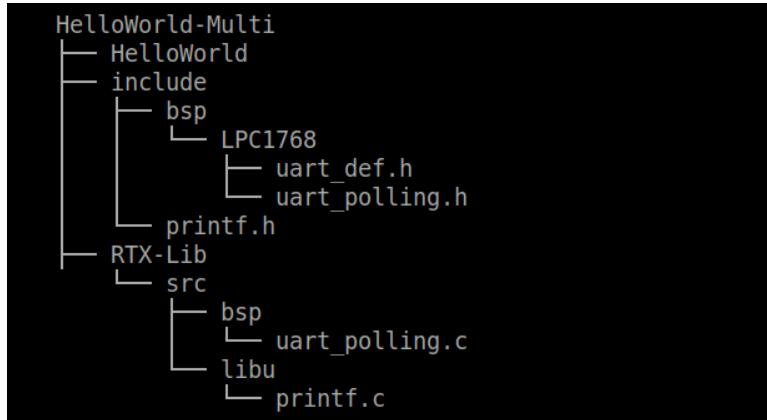

Figure 8.40: Directory Structure of a Multi-Project Workspace. The HelloWorld directory layout is omitted.
- Copy printf.c into the libu sub-folder (see Figure 8.40).
Your directory structure should look like what is shown in Figure 8.40. Note we omitted the directory layout of the HelloWorld folder.